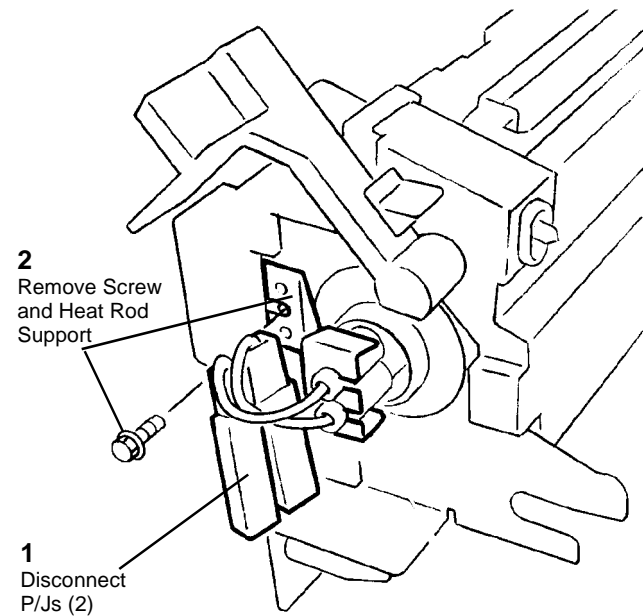

Figure 2 Preparing Fuser at Front
4. Prepare Fuser at front (Figure 2).